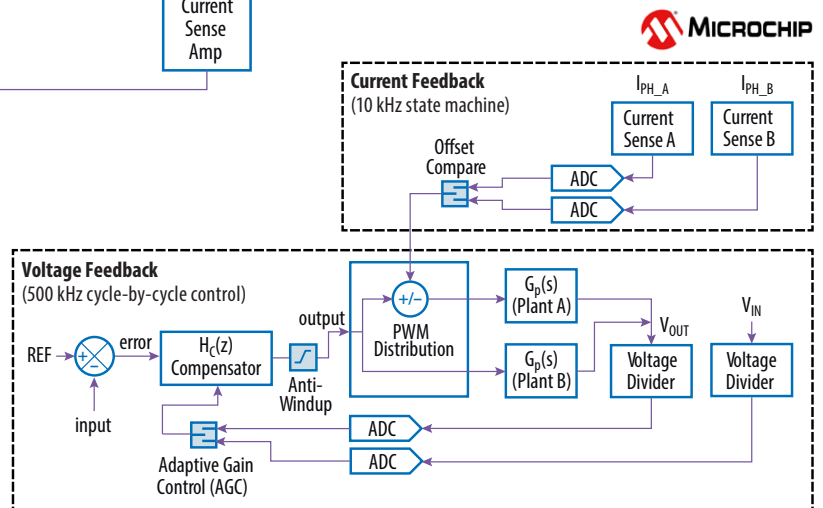

Figure 13. Interleaved buck converter advanced voltage mode control
- **Adaptive Type IV Voltage Mode Control (AVMC) with featuring Adaptive Gain Control (AGC) and Phase Current Balancing PWM Steering (figure 13):** The second, alternative firmware is tailored to intermediate bus converter module applications in power distribution networks (PDN). The major focus of this firmware lies on reducing PDN segment decoupling capacitance by maximizing the control bandwidth and the output impedance tuning capabilities, enhancing system robustness while minimizing cost.